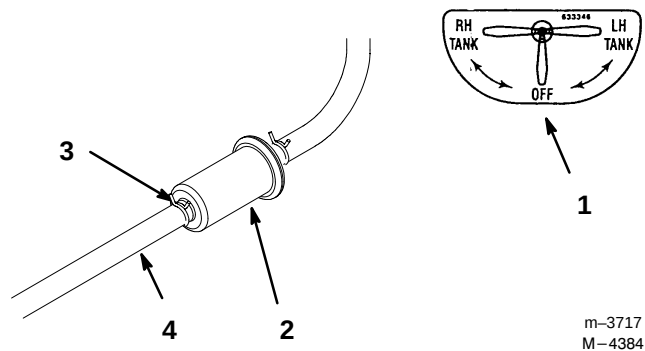

Figure 35
6. Install a new filter and move the hose clamps close to the filter (Fig. 35).
2. Close fuel shut-off valve (Fig. 35).
3. Loosen the hose clamp at the fuel filter and slide it up the fuel line away from the fuel filter (Fig. 35).
4. Pull the fuel line off fuel filter (Fig. 35). Open fuel shut-off valve and allow gasoline to drain into a gas can or drain pan.
5. Install the fuel line onto the fuel filter. Slide the hose clamp close to the fuel filter to secure the fuel line (Fig. 35).